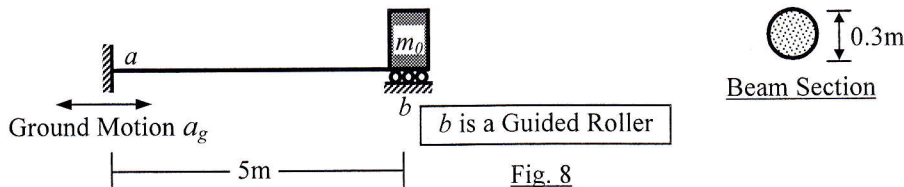

Fig. 8
10. Use *Constant Average Acceleration (CAA) Method* to calculate the horizontal deflection at node b of the weightless beam ab (supporting a mass $m_0 = 100 \text{ kN-s}^2/\text{m}$ at b) shown in Fig. 8 at time $t = 0.01$ sec after starting from rest, if it is subjected to ground acceleration $a_g = 3 \text{ Cos}(50t) \text{ (m/sec}^2\text{)}$ [Use stiffness $k = EA/L$ for the beam, with $E = 20 \text{ GPa}$, $\xi = 0.05$, $c = 2\xi\sqrt{(km)}$].